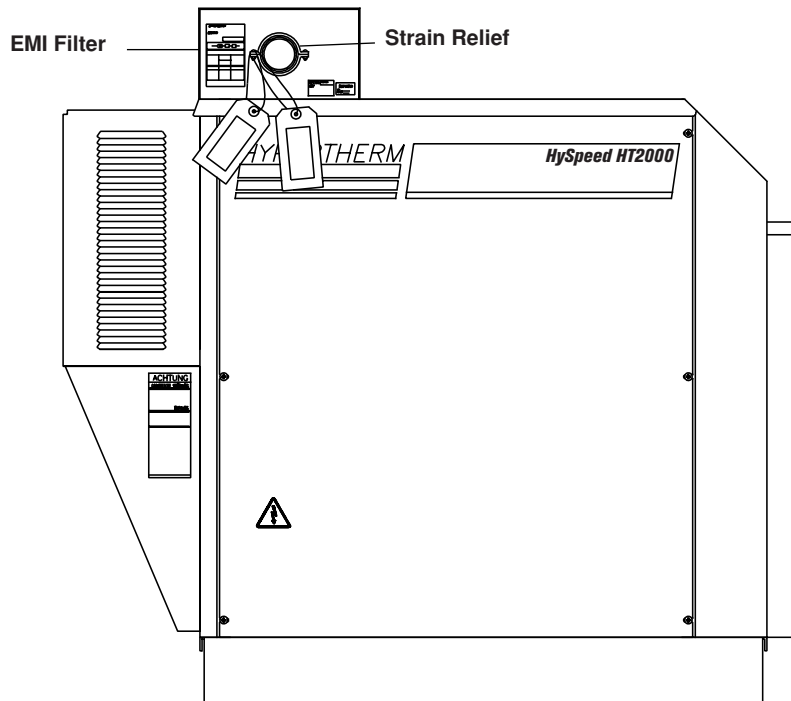

Figure e-1 Power Supply with EMI Filter – Side View
1. Locate the EMI filter on the top rear of the power supply (see Figure e-1).
3. Insert the power cable through the strain relief (see Figure e-1).